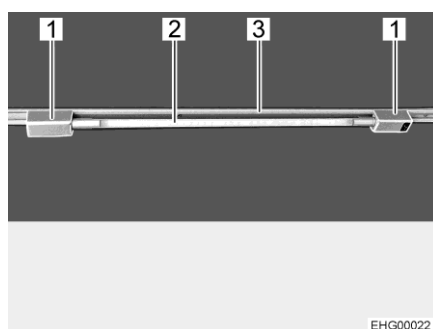

Fig. 28 Fluorescent tube
- Insert both brackets (Fig. 28,1) into the rail (Fig. 28,3). In order to do this, turn bracket through 90°.
- Plug lamp body (Fig. 28,2) into one of the brackets.
- Turn lamp body handle (Fig. 28,2) until the desired lighting effect is achieved.